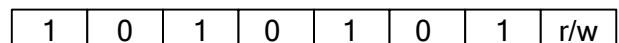

Figure 6: I²C Compatible Device Address
After the start condition, the I²C-compatible master sends a seven-bit address followed by an eighth read (1) or write (0) bit. The following bit indicates the register address to/from which the data will be written/read (see Figure 6).